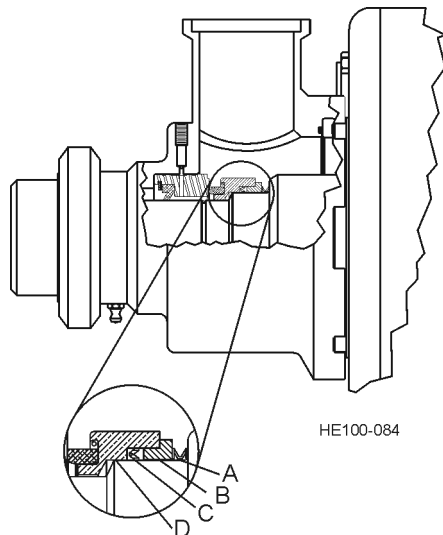

Figure 56 - Orientation of Seal Components
1. Place the wavy washer spring (See Figure 56, Item A) on the shaft.
2. Install the seal back-up ring. (See Figure 56, Item B).
3. Install the U cup seal with the opening facing toward the product side, as shown in Figure 56, Item C.
4. Place the seal body (See Figure 56, Item D) on the shaft, aligning the slots with seal drive pins.